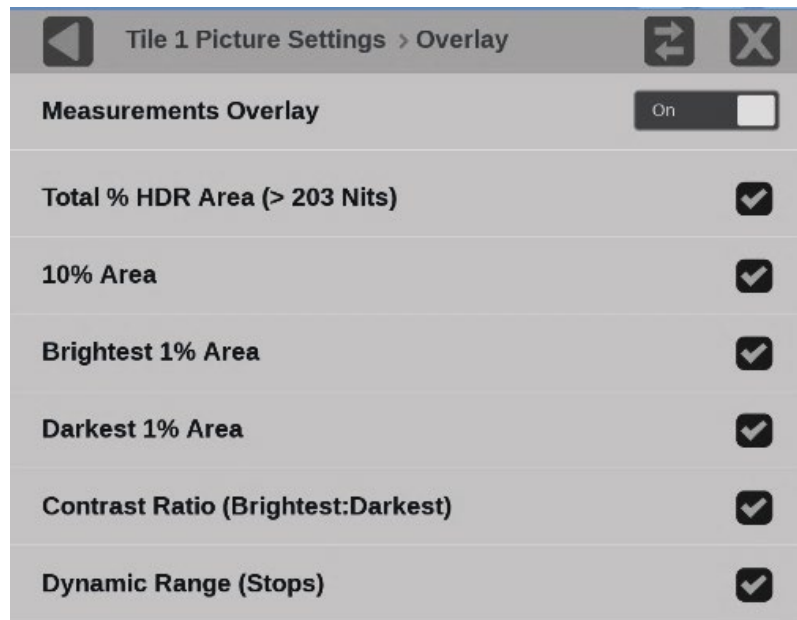

Figure 127: Picture Settings with Measurement Overlay menu
3. Set Measurements Overlay to **On**. (See Figure 127.) This turns on the measurements overlay in the Picture application. After it is visible, the overlay window can be dragged to any location in the Picture tile.